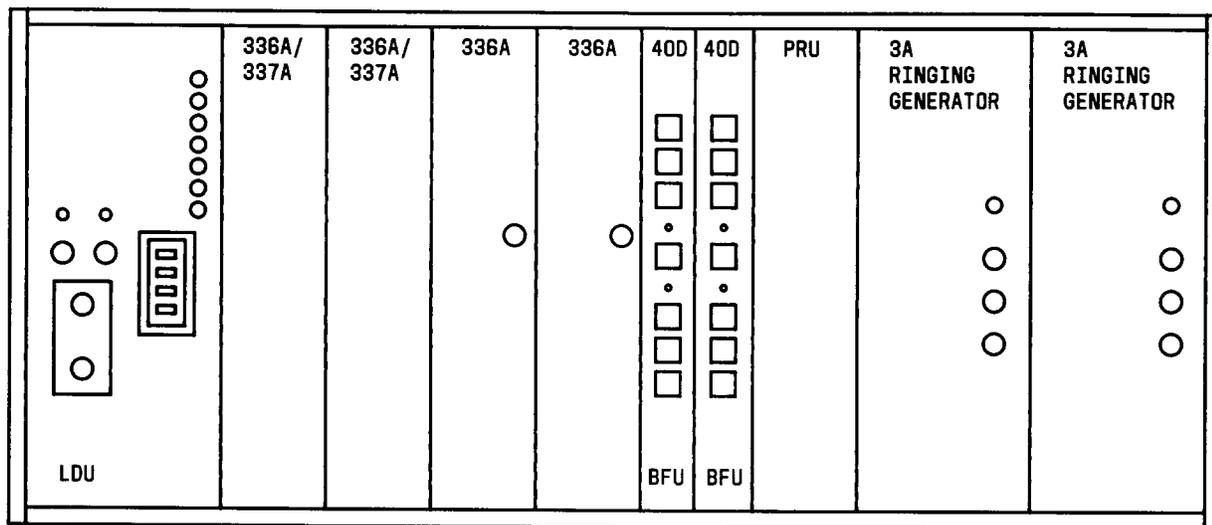

Fig. 2—Power Shelf
3. Insert one 336A RECTIFIER into first vacant RECT slot (counting right to left) in power shelf (Figure 2).